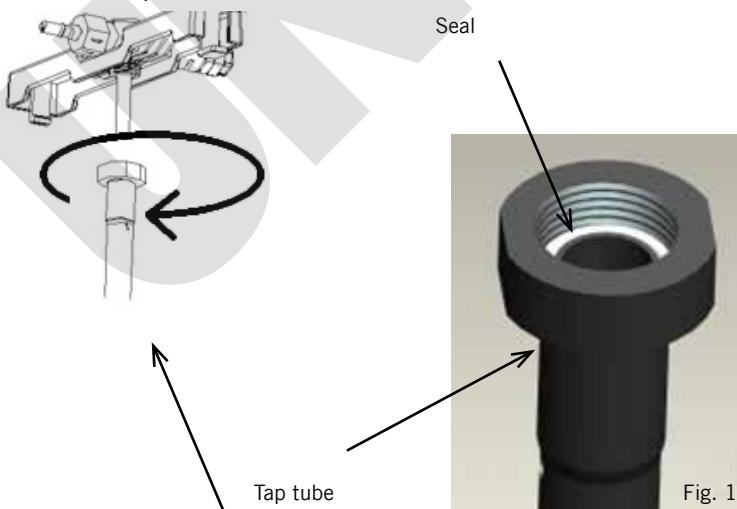

Fig. 16
13. Insert the new tube seal and tighten the tap tube (Fig. 16) so that no liquid can escape.